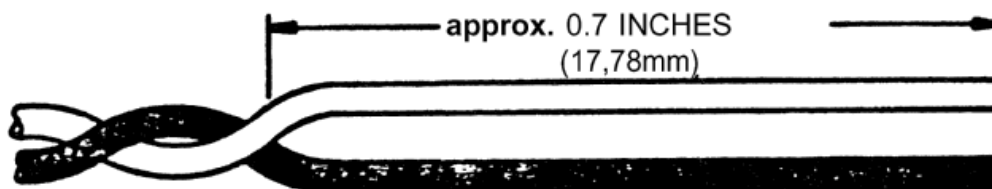

FIGURE 1
- 5.3.4.4 For best heating, position the contact as shown in Figure 1 or 11. Center the forward inspection window in the reflector. Position the forward inspection window toward the hot air stream such that the inner solder preform can be seen during termination.